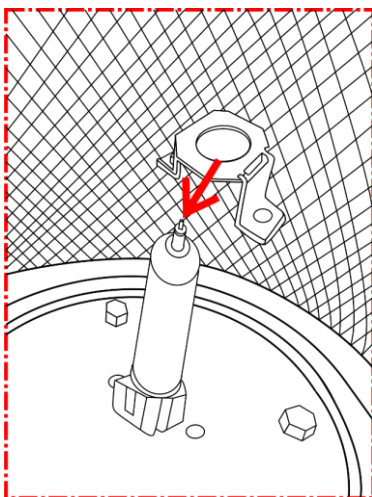
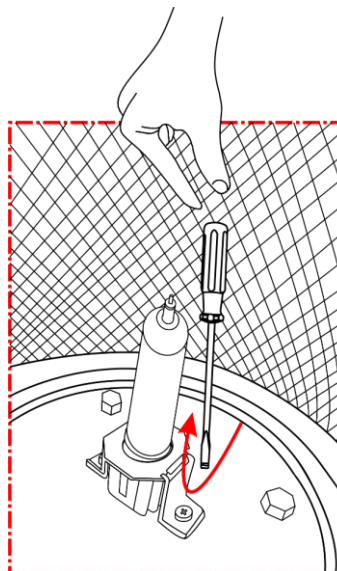

Fig. 08
Fig. 09
- 07) Connect the lamp holder at the bottom of the fixture (Fig.08 and Fig.09).